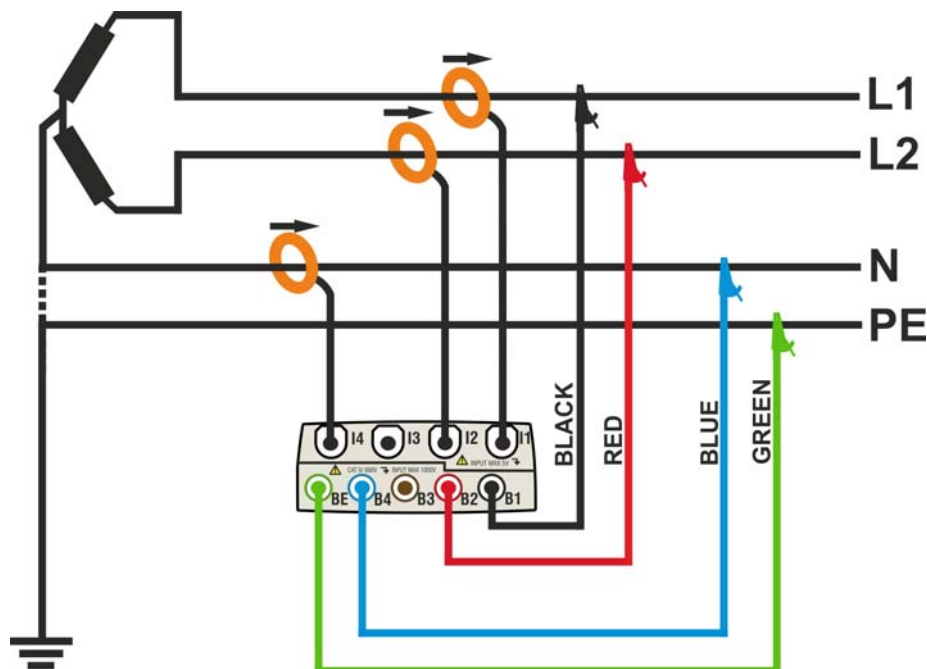

Fig. 126: Meter connection in a two phase 3-wire 3P 2E system – ENG type
2. Connect voltage test leads on Phases L1, L2, N and PE cables considering the colours as shown in Fig. 126
3. Connect the transducer current clamps on Phase L1, L2, N cables as shown in Fig. 126 respecting the clamp's arrow direction indicating the current standard sequence from generator to load. **On Real Time Values' section screens (selecting a 3 wire system preliminarily) always verify the positive value of Active Power and the power factor relative to load which should be normally inductive before starting a recording.** Reverse the clamp by 180 degrees on cables in case of negative readings.